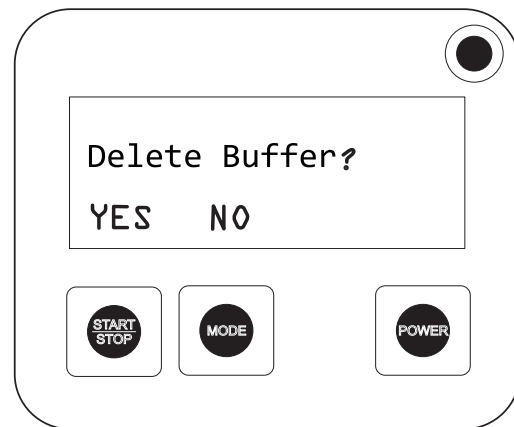

Figure 15 Delete Buffer screen
3. Press the **START/STOP** key to delete the buffer records. The Delete Buffer screen is displayed (refer to Figure 15 on page 24).